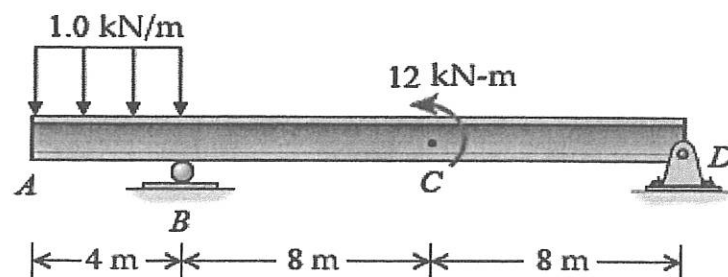

Figure Q4b/ Rajah S4b
- (b) Figure Q4b shows a 20m overhang beam was subjected to a uniform distributed load of 10kN/m and moment of 12kN.m along its span.